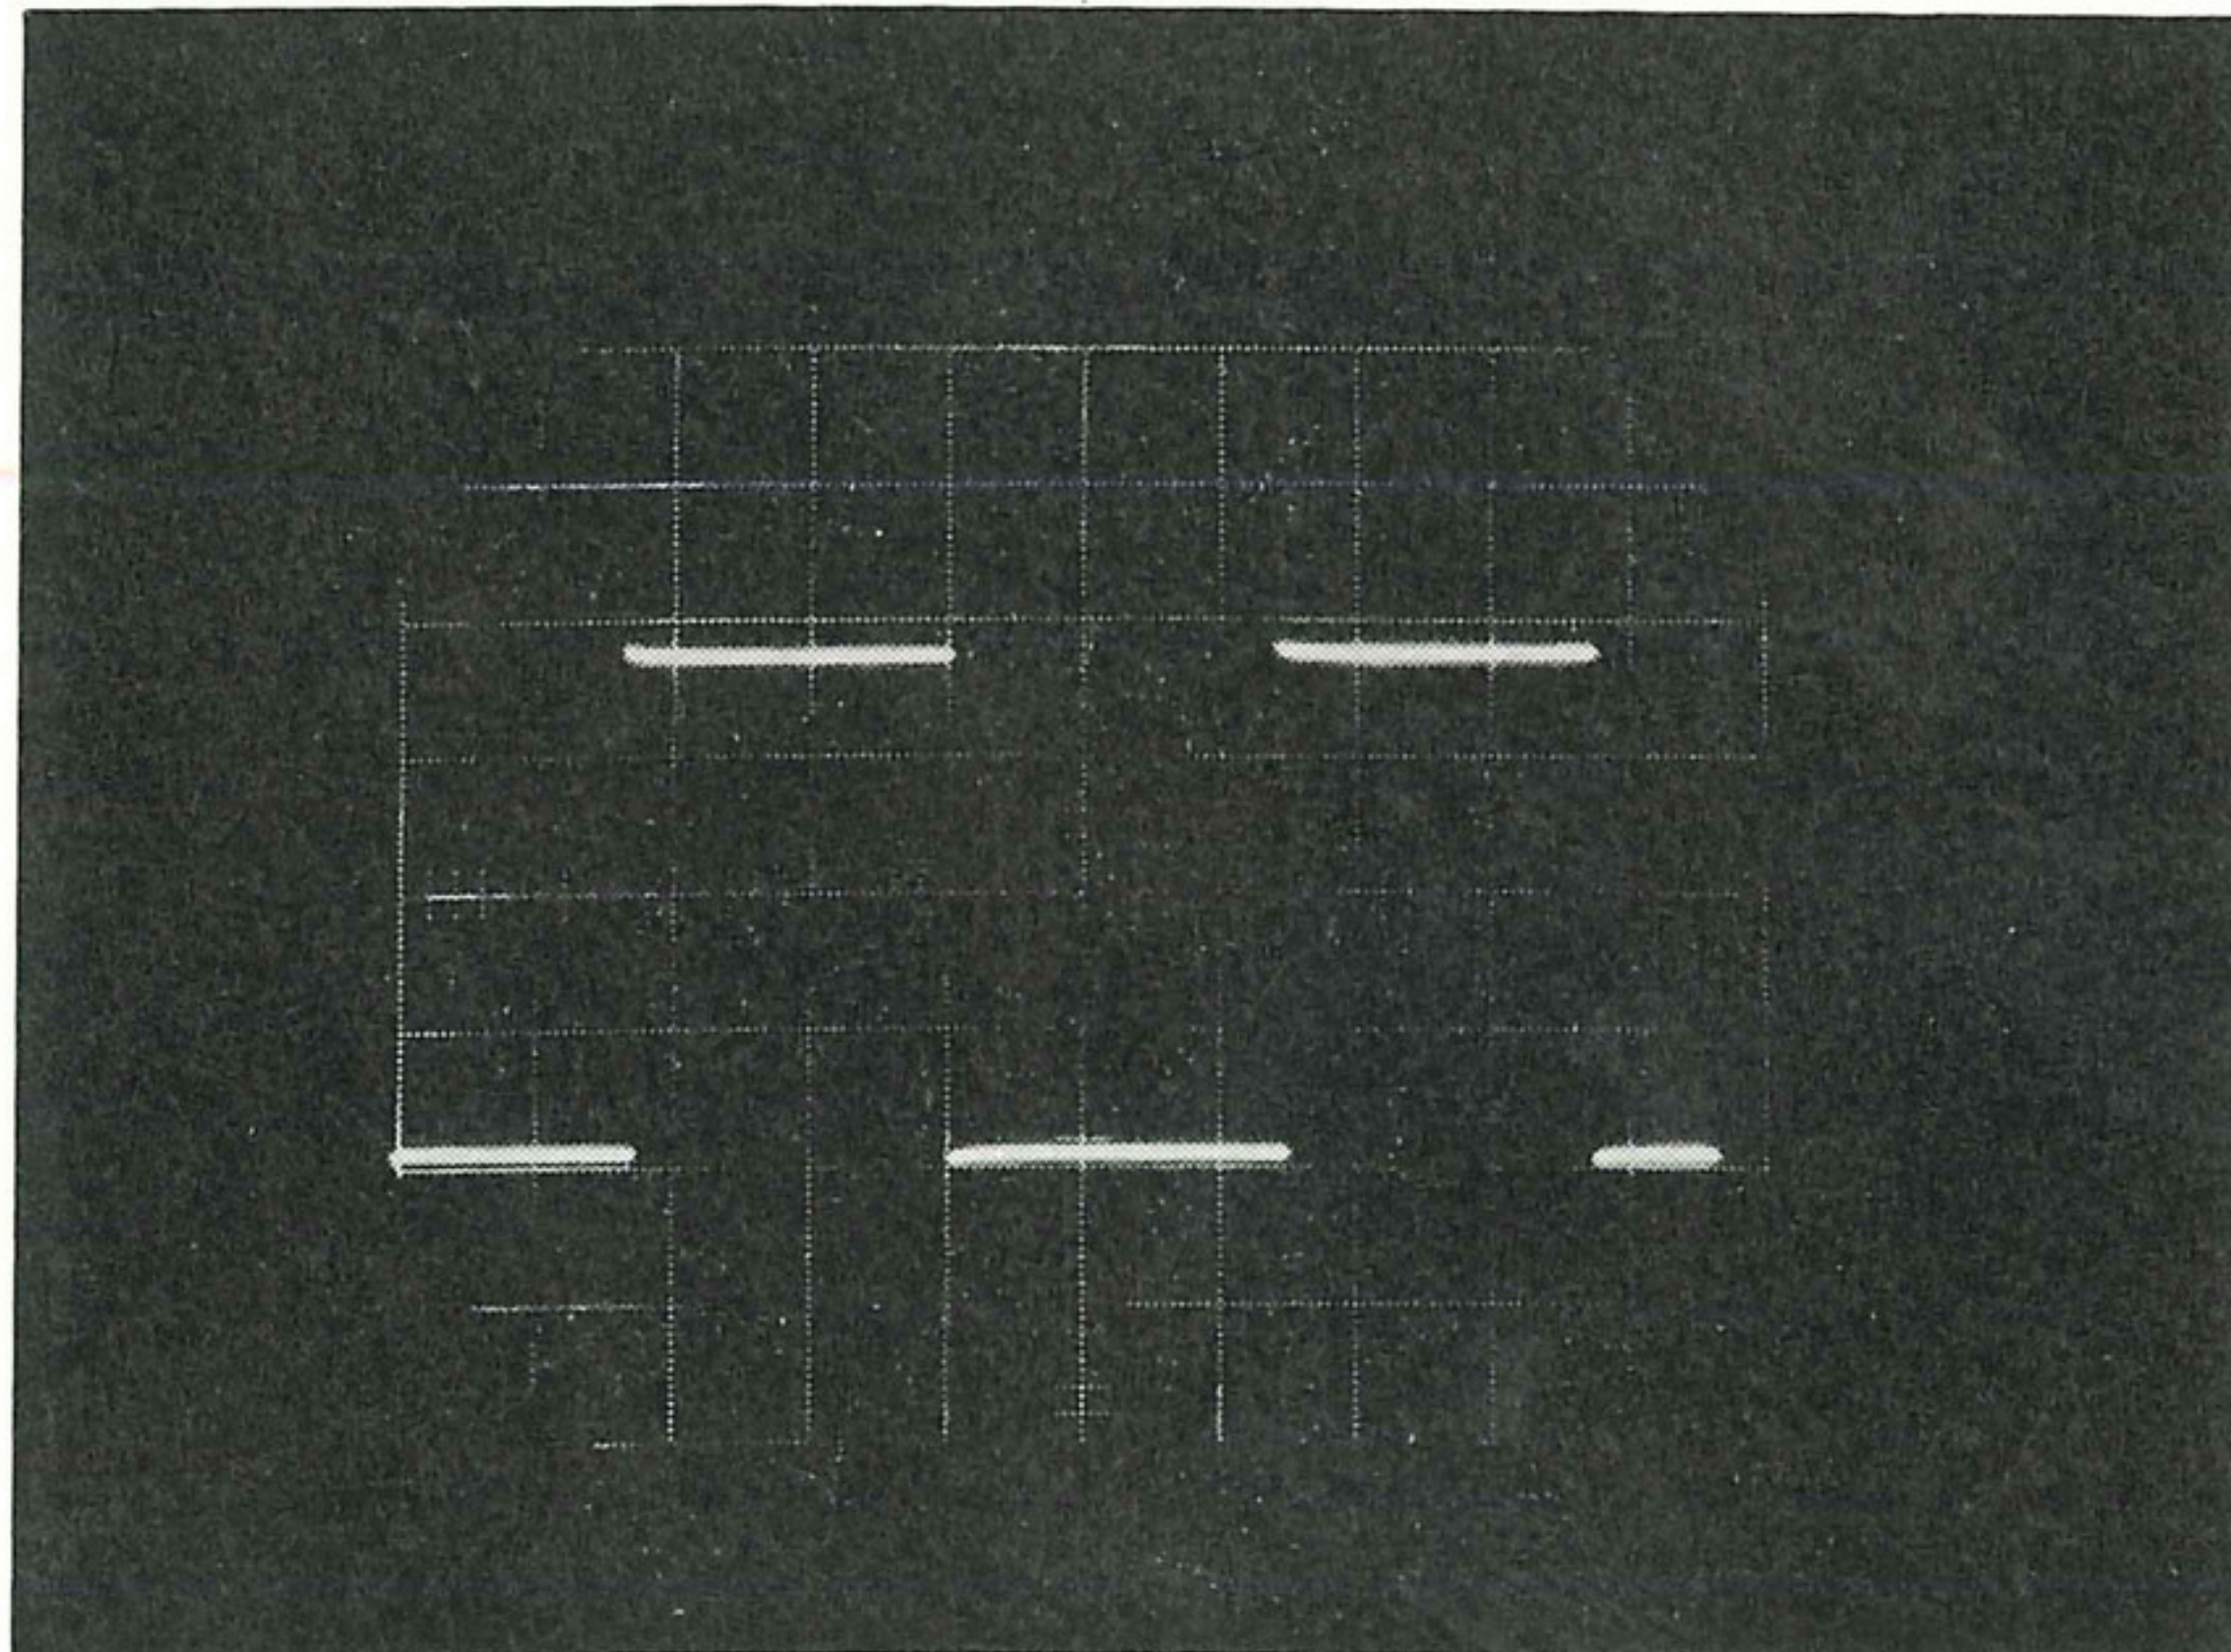

Fig. 11. Square-wave response via probe at 2 kc/s
- Check that the square-wave response in the positions "50 mV/div." and "100 mV/div." is at least as good as in Fig. 11.